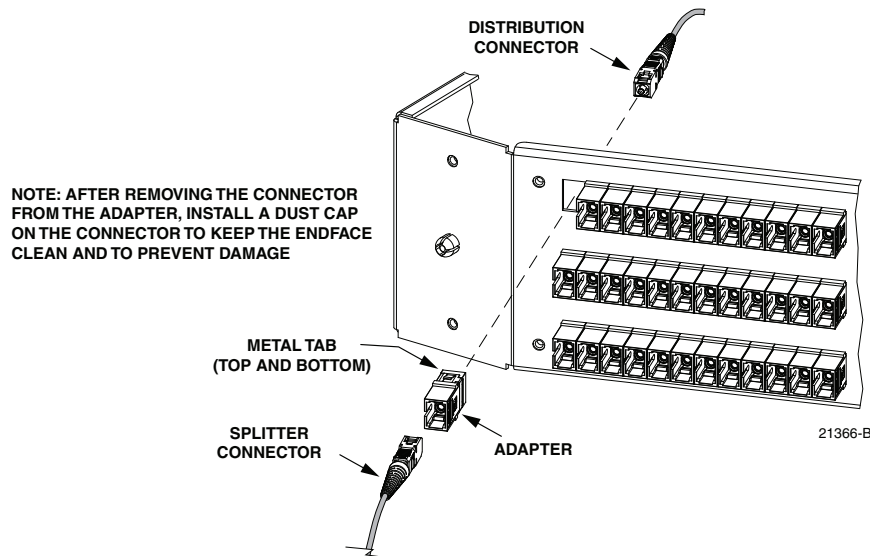

Figure 60. Adapter Removal and Replacement - Typical Distribution Panel
1. Disconnect the splitter connector from the front side of the broken adapter as shown in Figure 60 and install a dust cap on the connector.